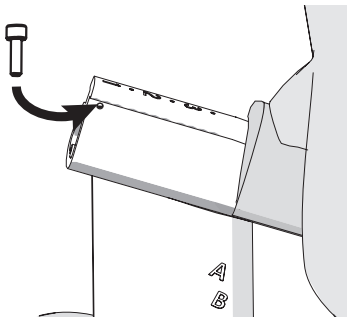

Figure 10
- 2. Insert one bolt ❸ into the post and fully tighten it to set the travel limit (Figure 10).